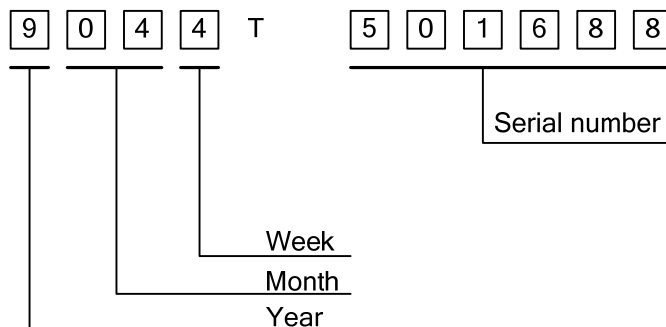

Fig. 13.1
- 1) The lot mark is showing in Fig.13.1. First 4 digits are used to represent production lot, and the last 6 digits are the serial number.